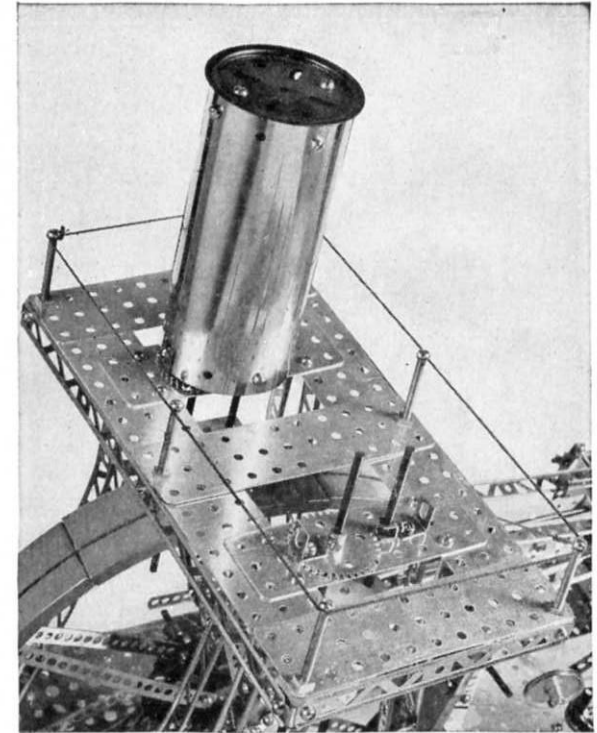

FIGURE 6
To the 8 (C) 10" girders that form the tower supports is fastened the tower platform with 8 (CH) right angles. The platform is made with 7 (MF) 1" x 5" base plates and 2 (ME) 1" x 4" base plates with 2 (C) 10" girders and 2 (B) 5" girders as shown in Figure 6. One of the boilers has been removed in this picture so you might see the (CJ) 36 tooth gear, the (2) 7" axles, and the (CH) right angles that are fastened to each (ME) 1" x 4" base plate. Under the boiler is a (CJ) 36 tooth gear, two 8" axles, 2 (CH) right angles, and a (BH) solid collar that keep one of the axles from moving up. The other axle is kept from moving up by fastening it to the 36 tooth gear. Two (T) boilers are mounted to the (CH) right angles on top of the tower. These boilers represent compressors in the original Corliss engine. Eight (FA) 13/4" x 8-32 screws are used with string to form a guard railing on the tower platform.